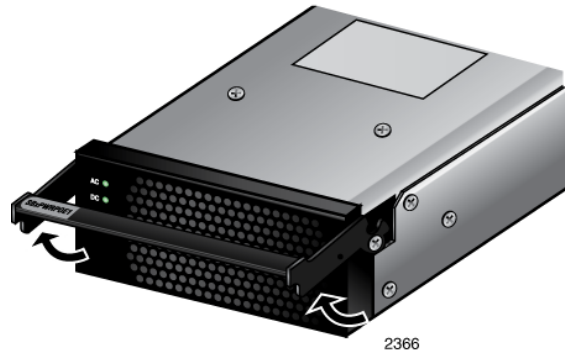

Figure 55. Unlocking the Handle on the AT-SBxPWRPOE1 Power Supply
4. Raise the locking handle on the AT-SBxPWRPOE1 Power Supply, as shown Figure 55 on page 128.